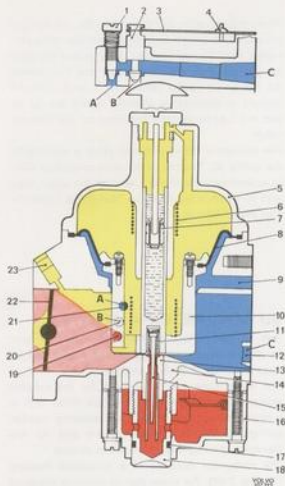
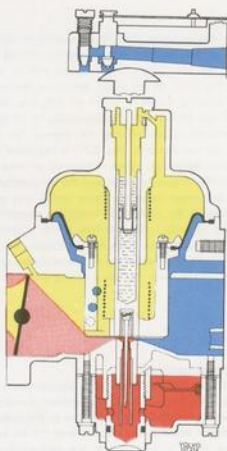
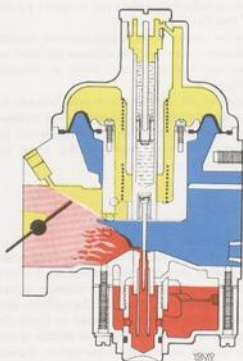

Fig. 2-77. Cold starting principle
Fig. 2-78. Idling, warm engine
Fig. 2-79. Normal operation
When the engine is idling, the vacuum in the carburetor suction chamber is low and the column between the air valve and the bridge will be small (see Fig. 2-78). At this stage, the thicker section of the metering needle is in the jet and thus only a small quantity of fuel, corresponding to idling requirements, is sucked into the engine. The temperature compensator (Fig. 2-77) is regulated by a bi-metal spring (3) which influences a valve (2). When the engine is warm and the temperature in the carburetor rises, the valve opens and air is supplied to the carburetor venturi to compensate for the increase in the fuel flow, which is obtained due to the alteration in the fuel's viscosity, see Fig. 2-78. Fine adjustment of the engine idling speed can be carried out with the idle trimming screw (1, Fig. 2-77).
When the throttle flap opens, approximately the same vacuum is obtained in the suction chamber as in the engine intake manifold. Due to the pressure difference between the underside of the air valve, where there is pressure in the carburetor inlet port, and the upper side of the valve, where there is vacuum, the valve lifts from the bridge. This also lifts the tapered metering needle (15, Fig. 2-77), which is attached to the valve, out of the jet. The effective choke area widens and increases the fuel flow. See Fig. 2-79.
When the air valve (10, Fig. 2-77) lifts, the damper plunger (7) is forced against its seat and oil is prevented from flowing past the lower side of the damper plunger from the upper side, and this retards the movement of the valve (10). A more powerful vacuum is temporarily obtained above the jet so that the fuel-air mixture becomes for the moment richer.